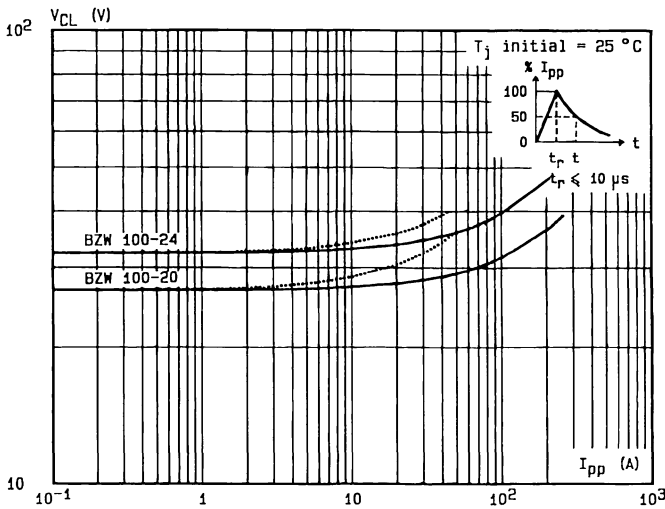

Fig.2 - Clamping voltage versus peak pulse current
Note : The curves of the figure 2 are specified for a junction temperature of 25 °C before surge. The given results may be extrapolated for other junction temperatures by using the following formula :  $\Delta V (BR) = \alpha_T (V (BR)) \times [T_j - 25] \times V (BR)$